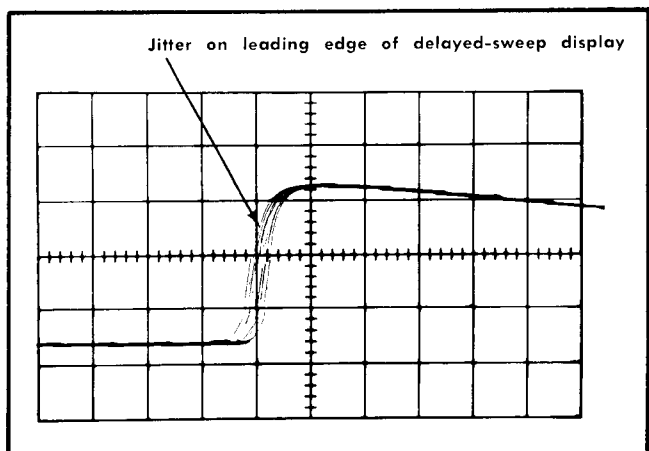

Fig. 5-17. Typical crt display showing acceptable delay-time jitter.
- d. Check—Jitter on leading edge of marker not to exceed 0.5 division (1 part in 20,000); see Fig. 5-17. Ignore slow drift.
- f. Check—Jitter on leading edge of marker not to exceed 0.5 division (1 part in 20,000); see Fig. 5-17. Ignore slow drift.